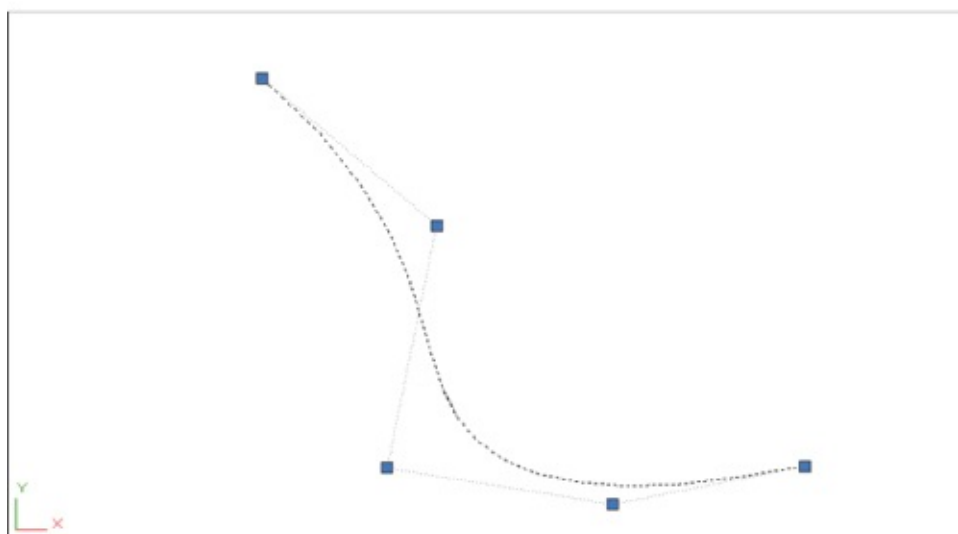

FIGURE 18.19 The fitted curve changed to a spline curve, with the location of the second vertex and the new curve
1. Click the curve. The original vertices appear as grips (see the first image in Figure 18.19).
2. Click the grip that is second from the top of the curve, as shown in the first image in Figure 18.19, and move the grip around. The curve follows your moves, giving you immediate feedback on how it will look.
3. Pick a point as shown in the second image in Figure 18.19. The curve is now fixed in its new position, as shown in the bottom image of Figure 18.19.